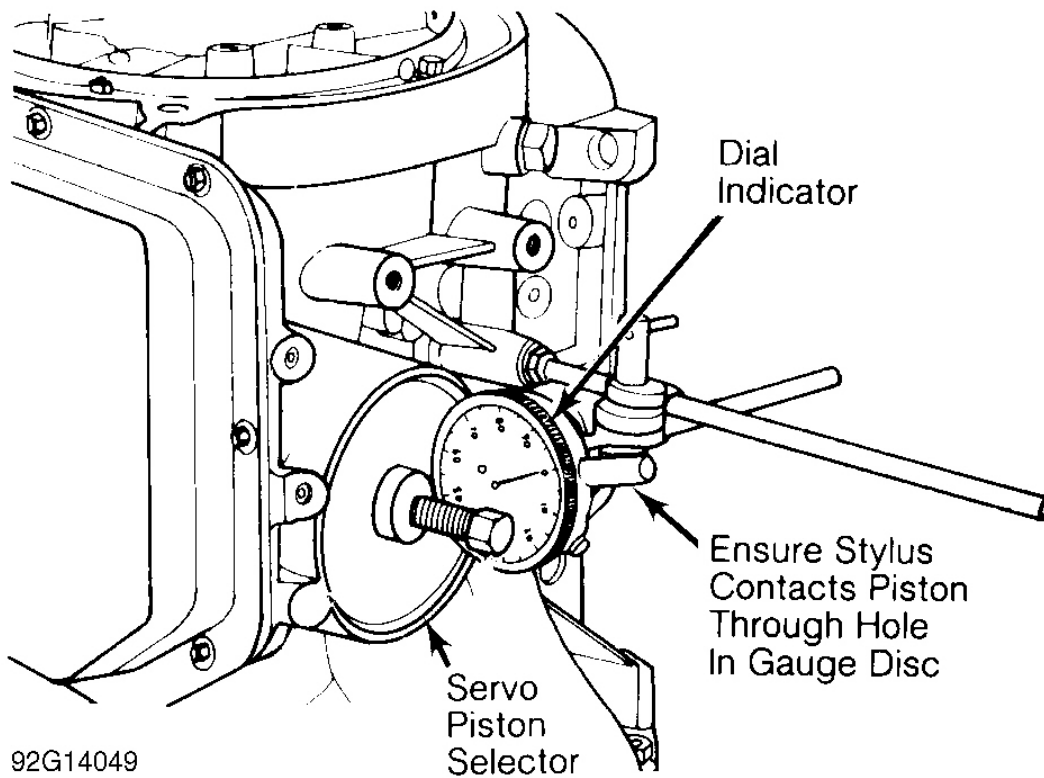

Fig. 9: Measuring Servo Piston Travel
2. Install Servo Piston Selector (T81P-70023-A) and secure in case using servo cover retaining snap ring. Tighten gauge screw to 120 INCH lbs. (14 N.m). See **Fig. 9**.